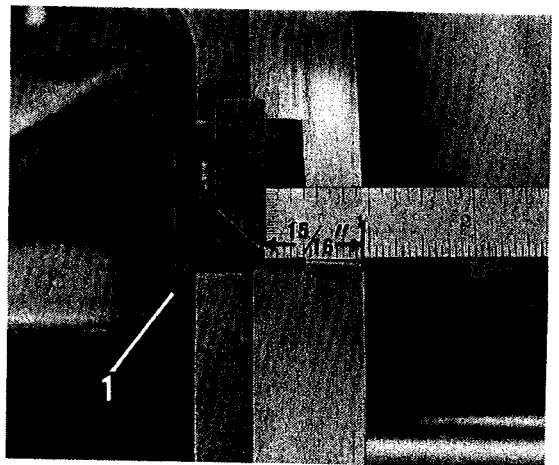

Fig. 3
3) In order to set the stopping and safety pawls correctly, adjust screw 1 (Figure 3) until you have obtained $15/16''$ between the back